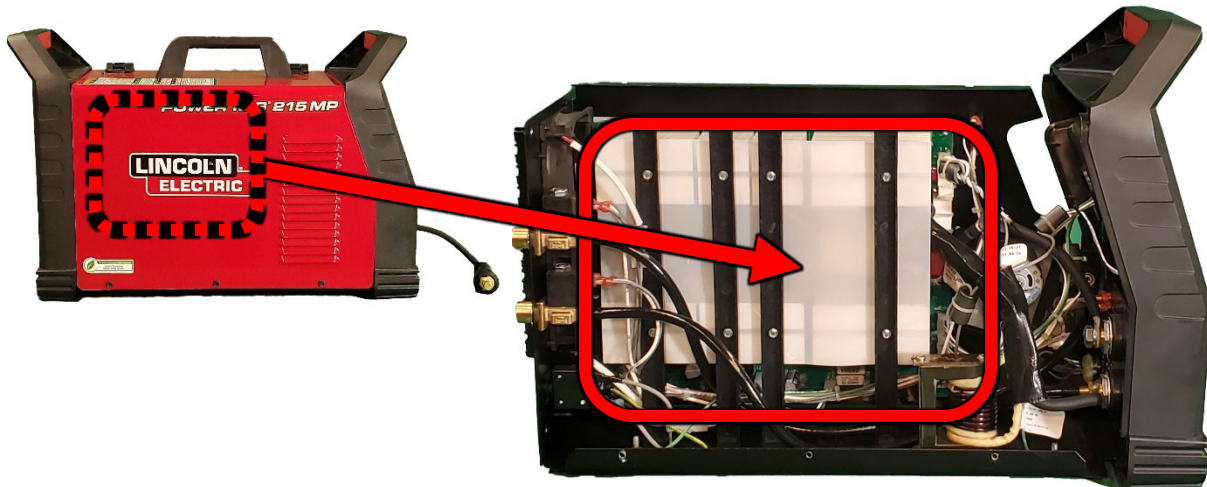

Figure F.1
1. For location of the Power Control Board refer to Figure F.1.